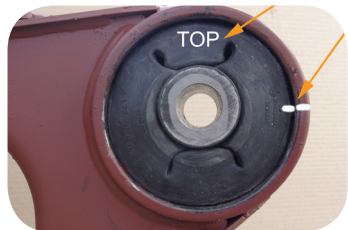

Fig. 17 · Checking the installation position
12. Check the proper orientation of the pivot bushing. Make sure that the orientation index marked "TOP" (in white color for illustration purposes) faces upward and that the bushing position locator of the replacement bushing is aligned with the bushing orientation line drawn on the outside of the receptacle (Fig. 17). If the replacement pivot bushing is not installed properly, remove and reinstall it.